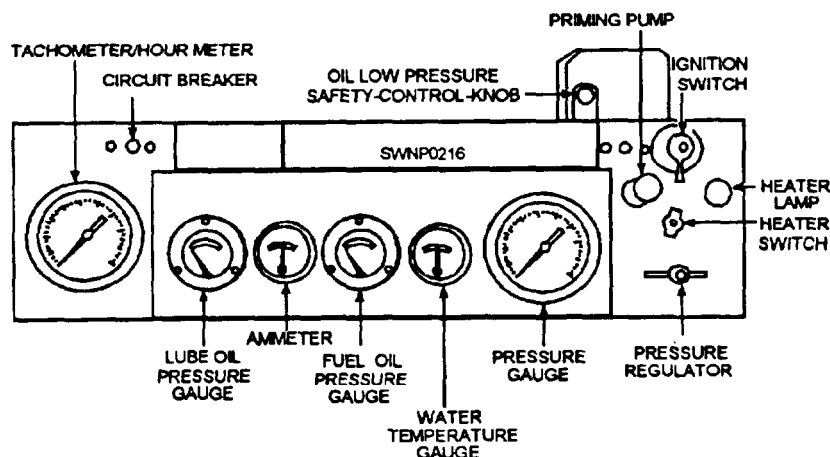

Figure 12-30.—Instrument panel.
2. Position the low-pressure, engine-oil-system safety knob to ON (fig. 12-30).